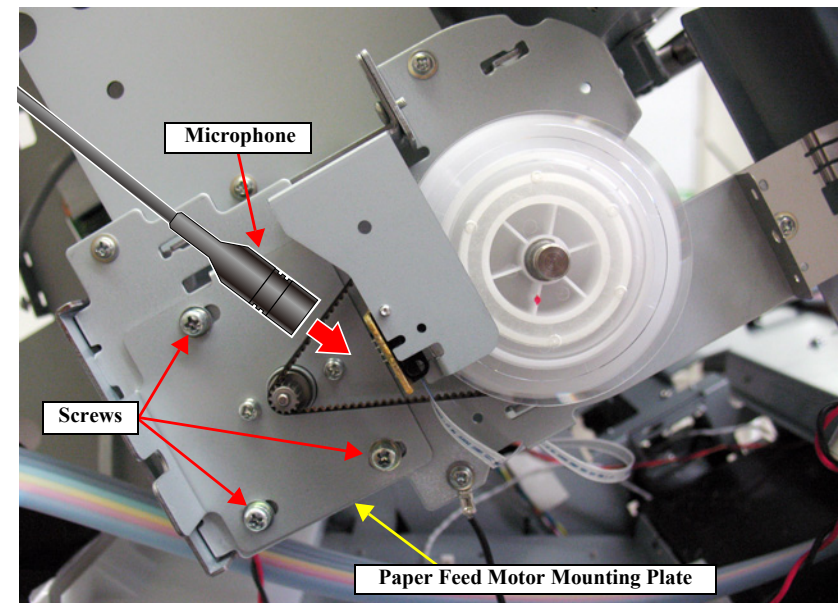

Figure 5-50. PF Timing Belt Tension Adjustment
8. Bring the microphone of the meter closer to the position shown in Figure 5-50 of the Timing Belt.
9. Press **[MEASURE]** on the Sonic Tension Meter U-507 and flip the Timing Belt with tweezers in the direction of the arrow in Figure 5-50.